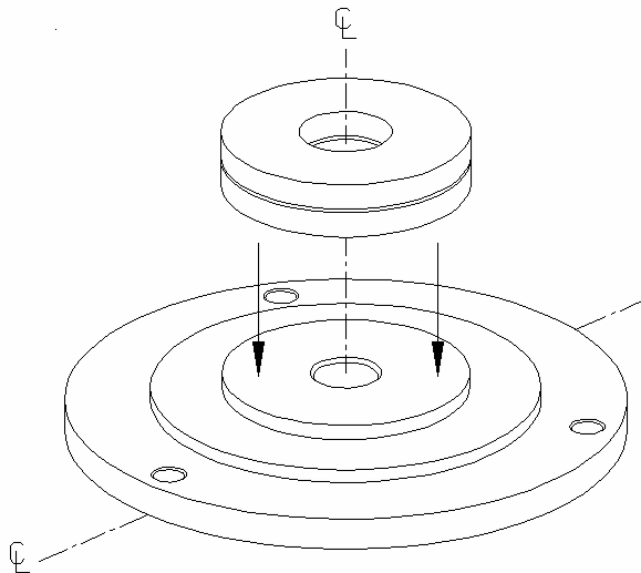

Figure 12
4. Place thrust bearing on bottom plate which has been positioned on the floor. Repeat for right and left side bottom plates. See Figure 12